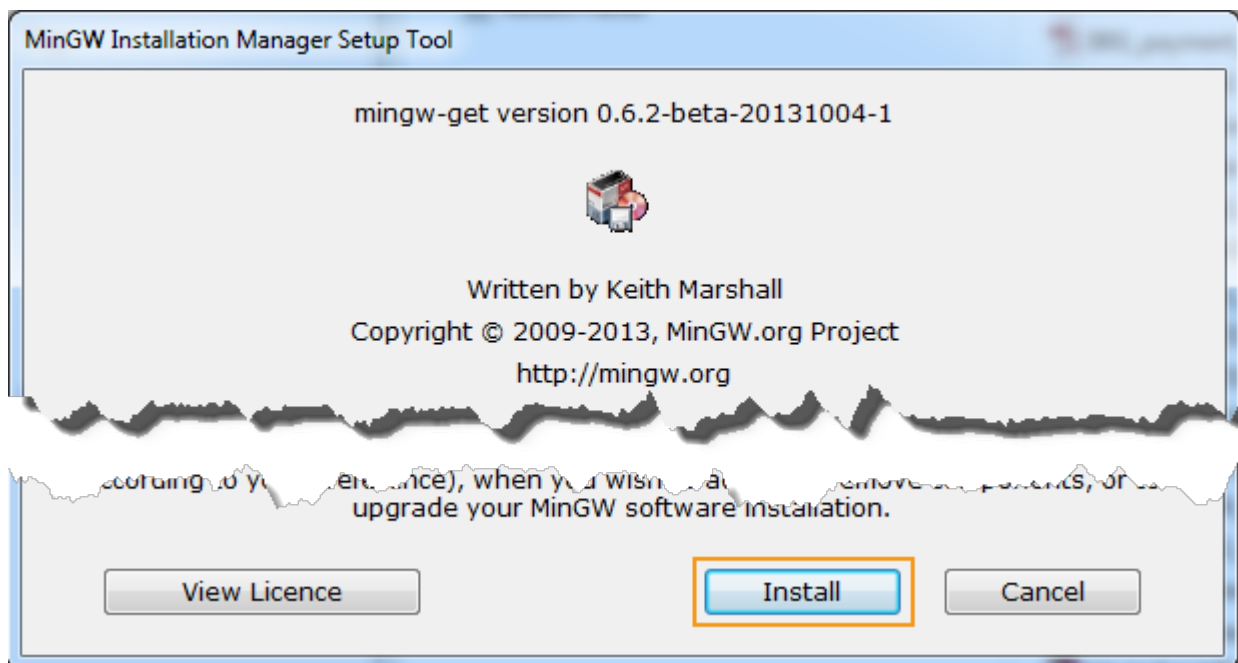

Figure 1. MinGW Installation Manager Setup Tool
- 2) Launch the installer, and click **Install** (see Figure 1).